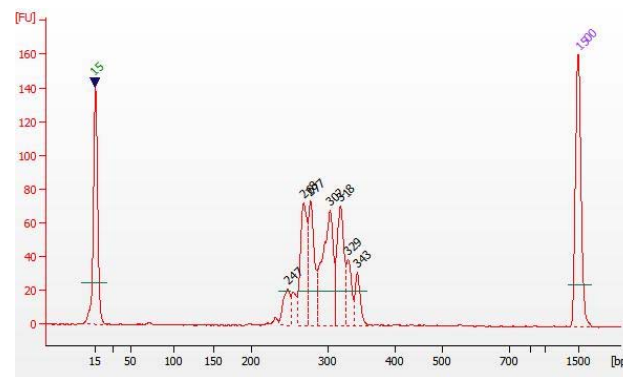

Figure 2. Example of library size distribution on a Bioanalyzer
7.2 Library fragment QC (optional): Assess the library quality on Agilent 2100 Bioanalyzer (or equivalent), the main peak size of the DNA fragment should be at 200~400 bp, as shown in Figure 2.
- The library distribution shown in the Figure 2 above was assessed using Agilent 2100 Bioanalyzer system and Agilent DNA 1000 Reagents. The peak at 15 bp stands for the lower marker, and the peak at 1500 bp stands for the upper marker.